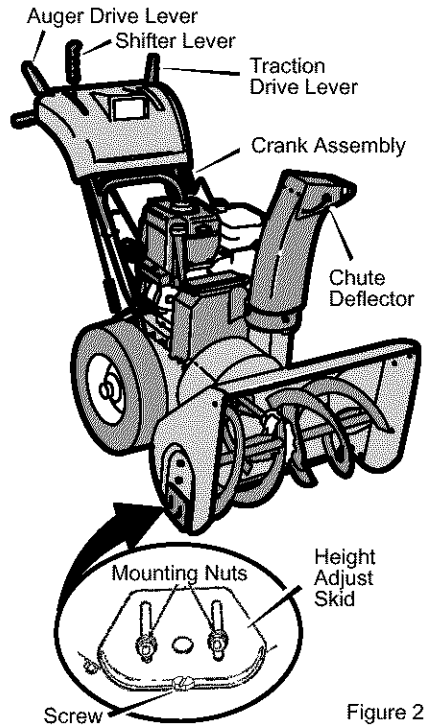

Figure 2
Figure 2 shows the snow thrower completely assembled. References to the right or left hand side of the snow thrower are from the viewpoint of the operator's position behind the unit.
4. For shipping purposes, the **height adjust skids** are attached to the pallet. Remove the **screw** that secures each **height adjust skid** to the pallet. See Figure 2.